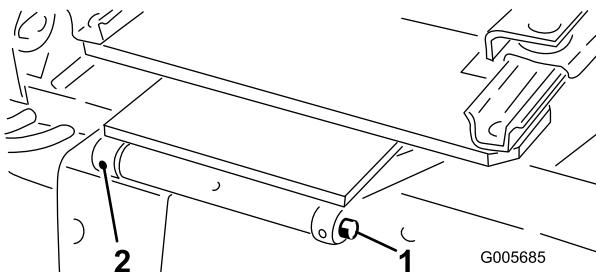

Figure 9
3. Mount seat and seat support to seat pivot bracket with pivot shaft and roll pin (Figure 9).
5. Mount seat and seat support to seat pivot bracket with pivot shaft and roll pin (Figure 9).